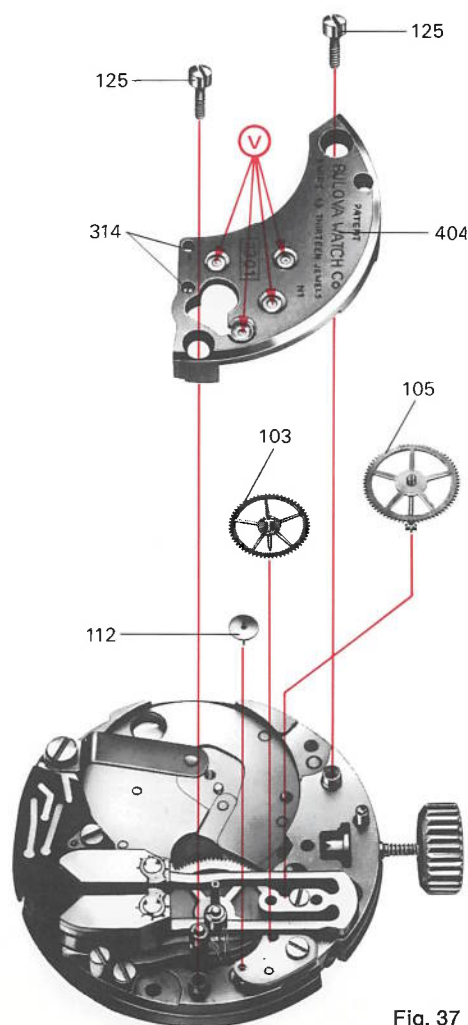

Fig. 37
- A. Lubricate (V) Bridge jewels (fig. 37).